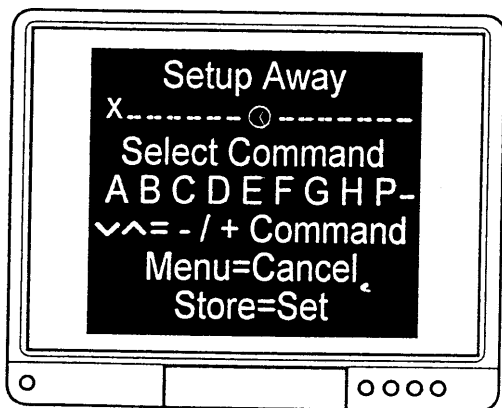

Figure 19.
Step 3. Press 'Enter' on the keypad. The on-screen display will change to the display shown in figure 19.